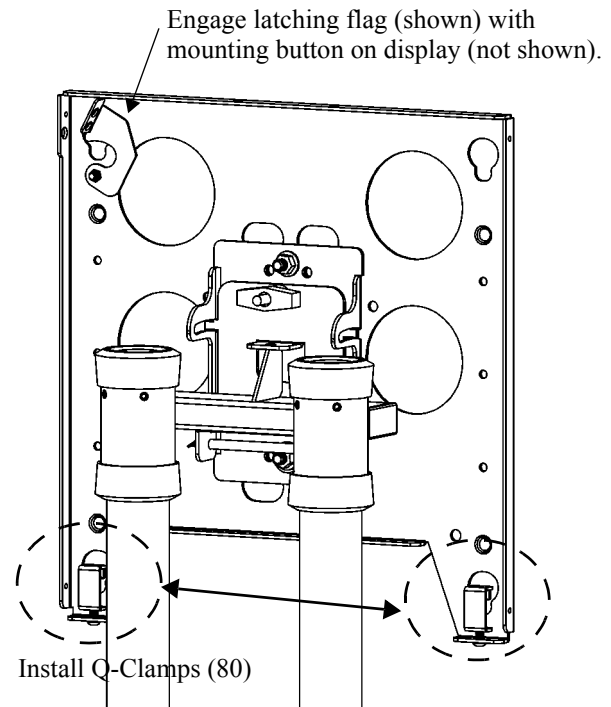

Figure 8. Engage Latching Flag and Install Q-Clamps
3. Secure the display by completely engaging the latching flag over the mounting button (see Figure 8).
4. Lock the display in place by installing two Q-clamps (80) on each side of the face plate (see Figure 8).